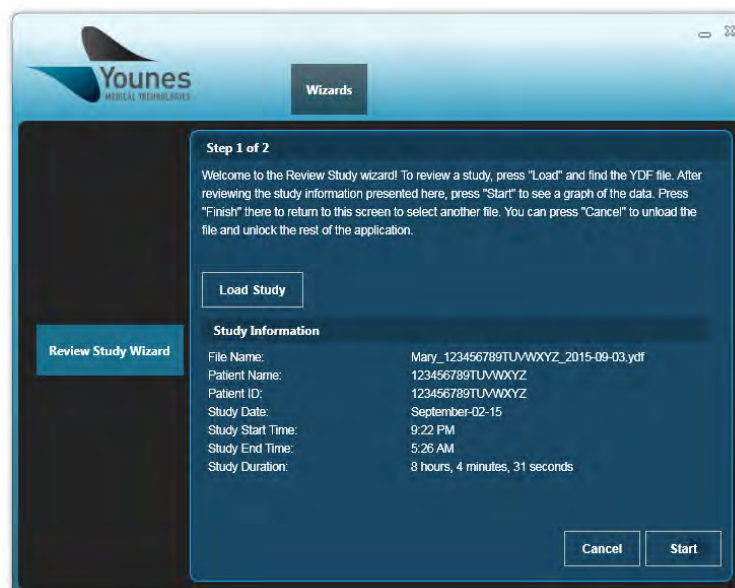

Figure 93 – Windows PC Prodigy Application Loaded Study Information Screen (Review Study Wizard)
4. The Windows PC Prodigy application will display all information associated with the study you selected, as shown in Figure 93. Select “Start” to view the file.